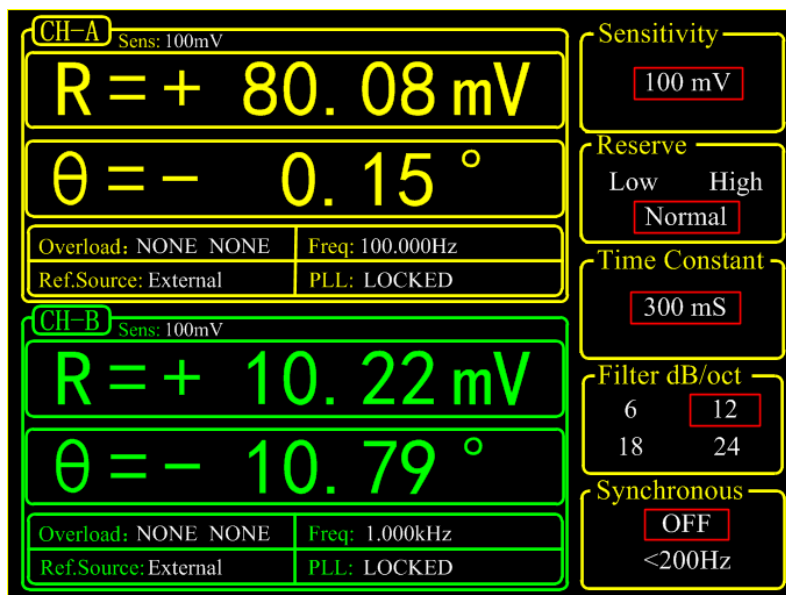

Fig.86 The Monitoring Bar of Main Interface
6. The data bar of main interface displays the value of <R>, <X>, <Y> and <θ>. Press [DISPLAY] in front panel to enter the submenu, as shown in Fig 86 and 87.